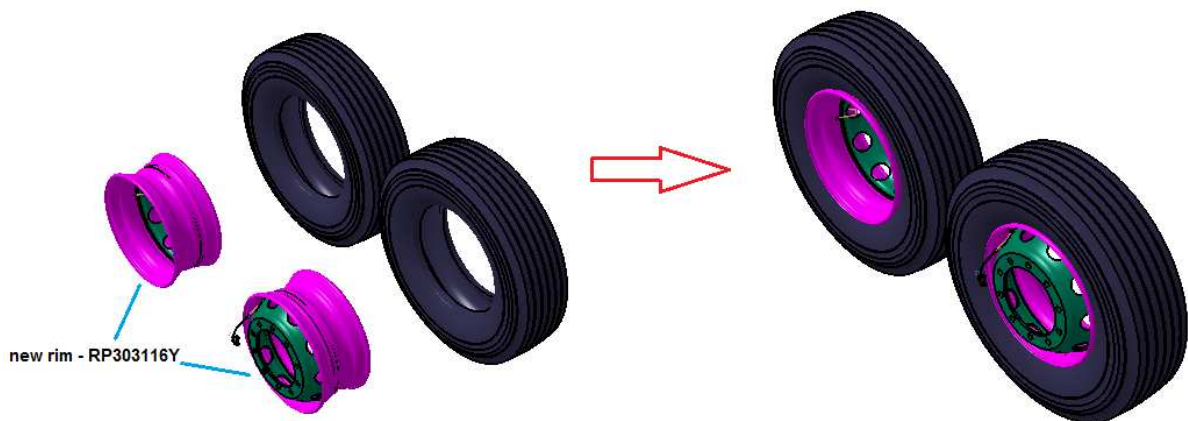

Figure-7
* Install new rims to the wheels shown in Figure-7.